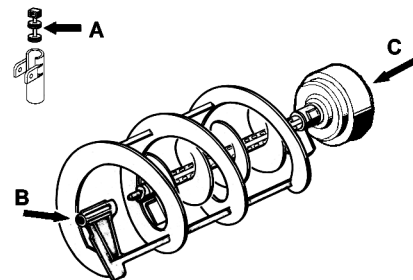

figure 14
- 2 - Lubricate faucet piston, inside auger and outer spiral (see points A, B and C of figure 14) only with the grease supplied by the manufacturer or other **food grade approved** lubricant.